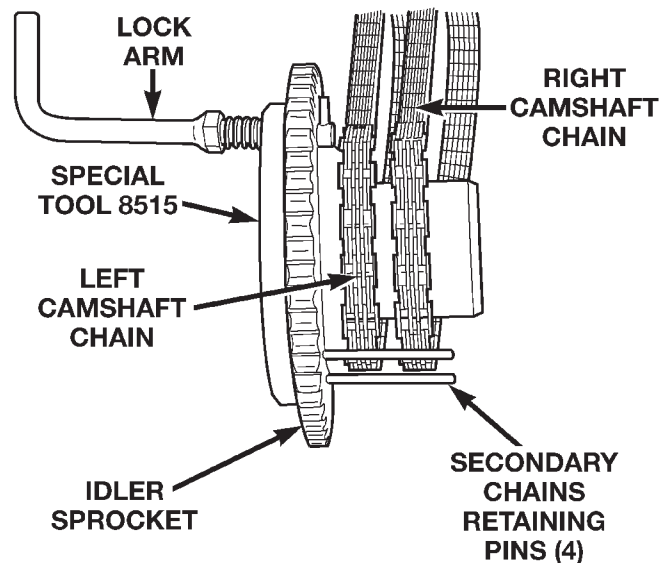

Fig. 43 Using Special Tool 8515 to Hold Chains to Idler Sprocket.
(12) Remove the crankshaft damper. Refer to Crankshaft Damper in this section.
(13) Remove the timing chain cover. Refer to procedure in this section.
(14) Lock the secondary timing chains to the idler sprocket using Special Tool 8515 (Fig. 43).
- (11) Remove the crankshaft damper. Refer to Crankshaft Damper in this section.
- (12) Remove the timing chain cover. Refer to Timing Chain Cover in this section.
- (13) Lock the secondary timing chains to the idler sprocket using Special Tool 8515 (Fig. 43).